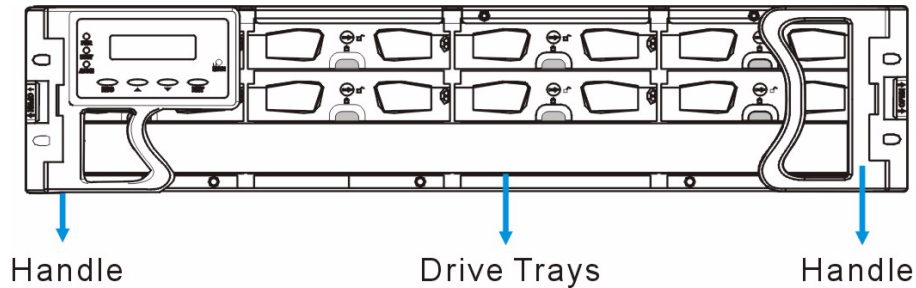

Fig. 2.3 Front View
The front section of the subsystem features a 4 x 2 layout for eight (8) 3.5-inch disk drives and a foldable LCD keypad panel. The front panels of the RAID subsystems described in this manual are shown in *Figure 2.3*. A description of the front panel component is given below: